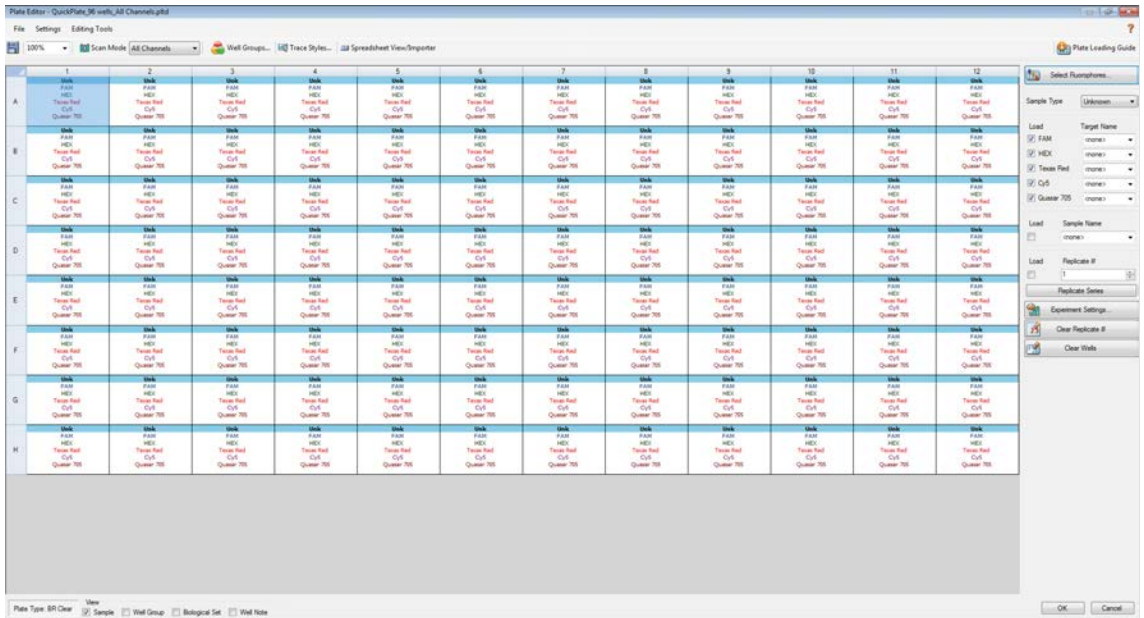

Figure 2. The Plate Editor screen.
2. Click “Edit Selected...”. The Plate Editor menu appears (Figure 2).